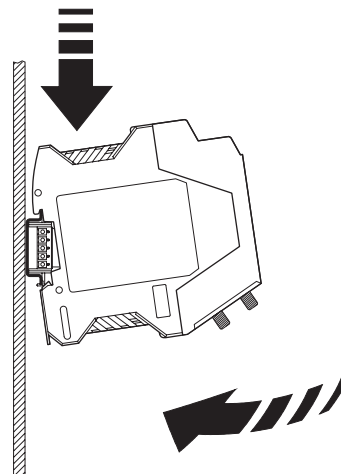

Figure 13
3. Place the module onto the DIN rail from above. The upper holding keyway must be hooked onto the top edge of the DIN rail (Figure 13). Ensure that it is aligned correctly with the DIN rail bus connectors.